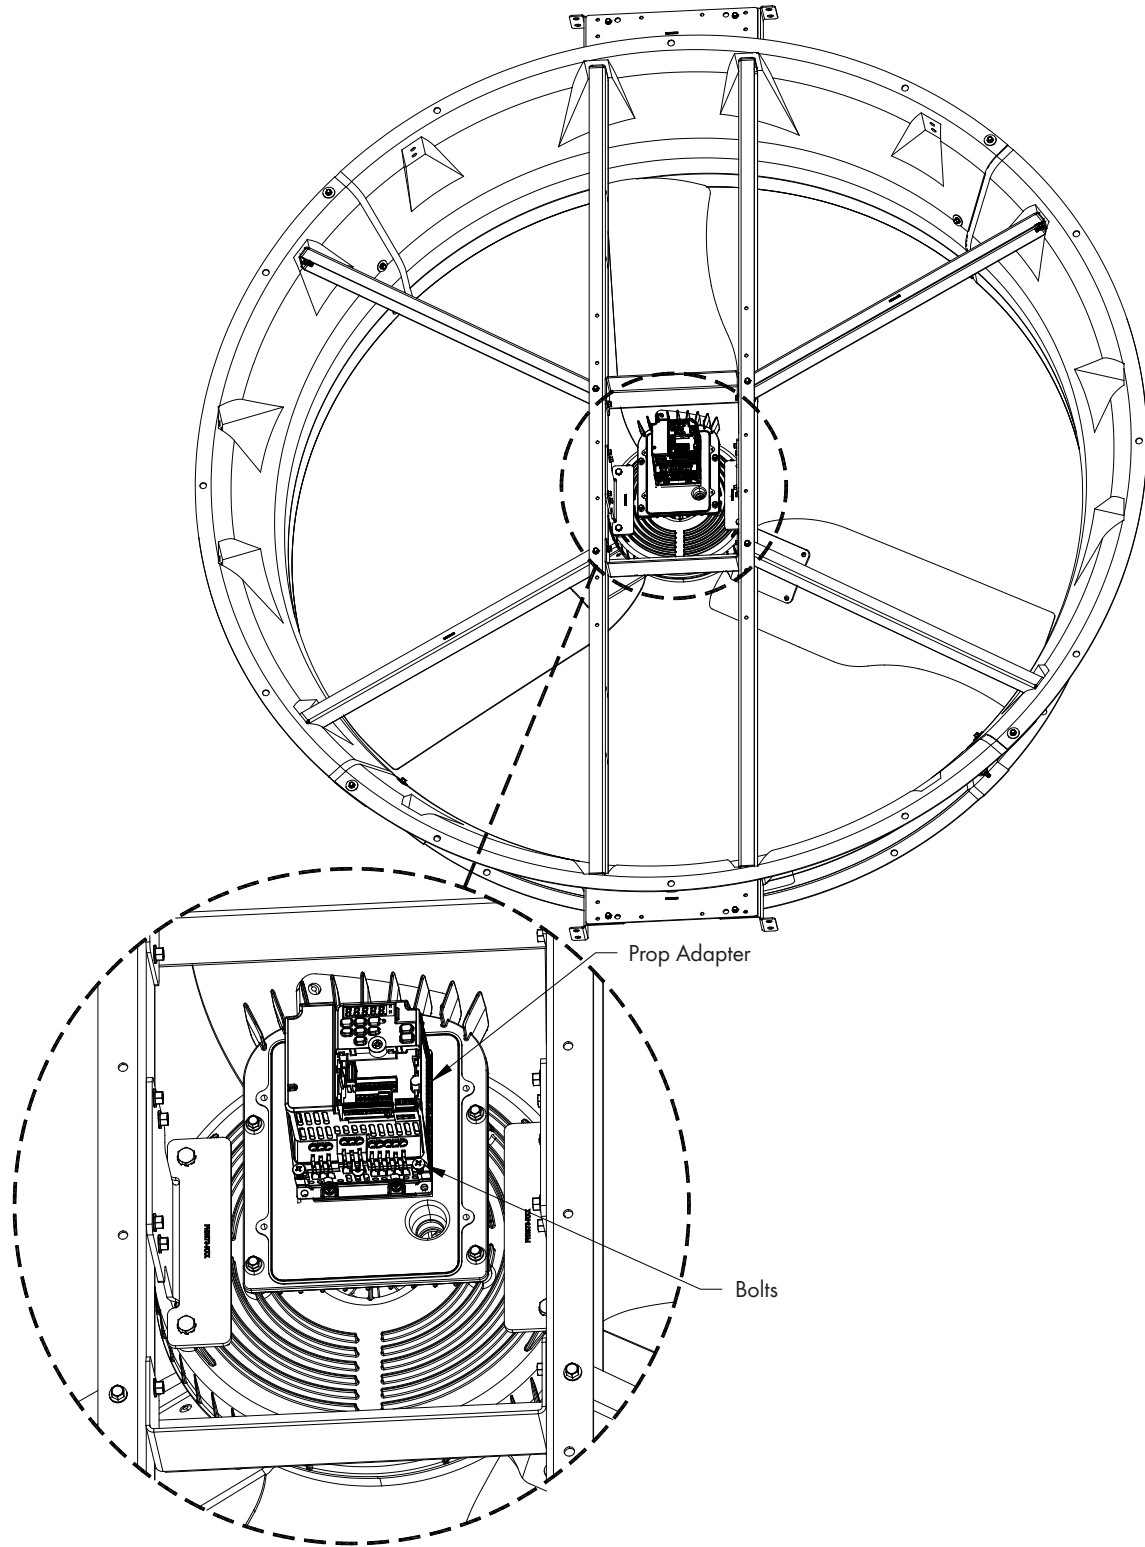

Figure 12
Remove the (4) Bolts holding the Controller to the heat sink. Discard the existing bolts. See Figure 12.